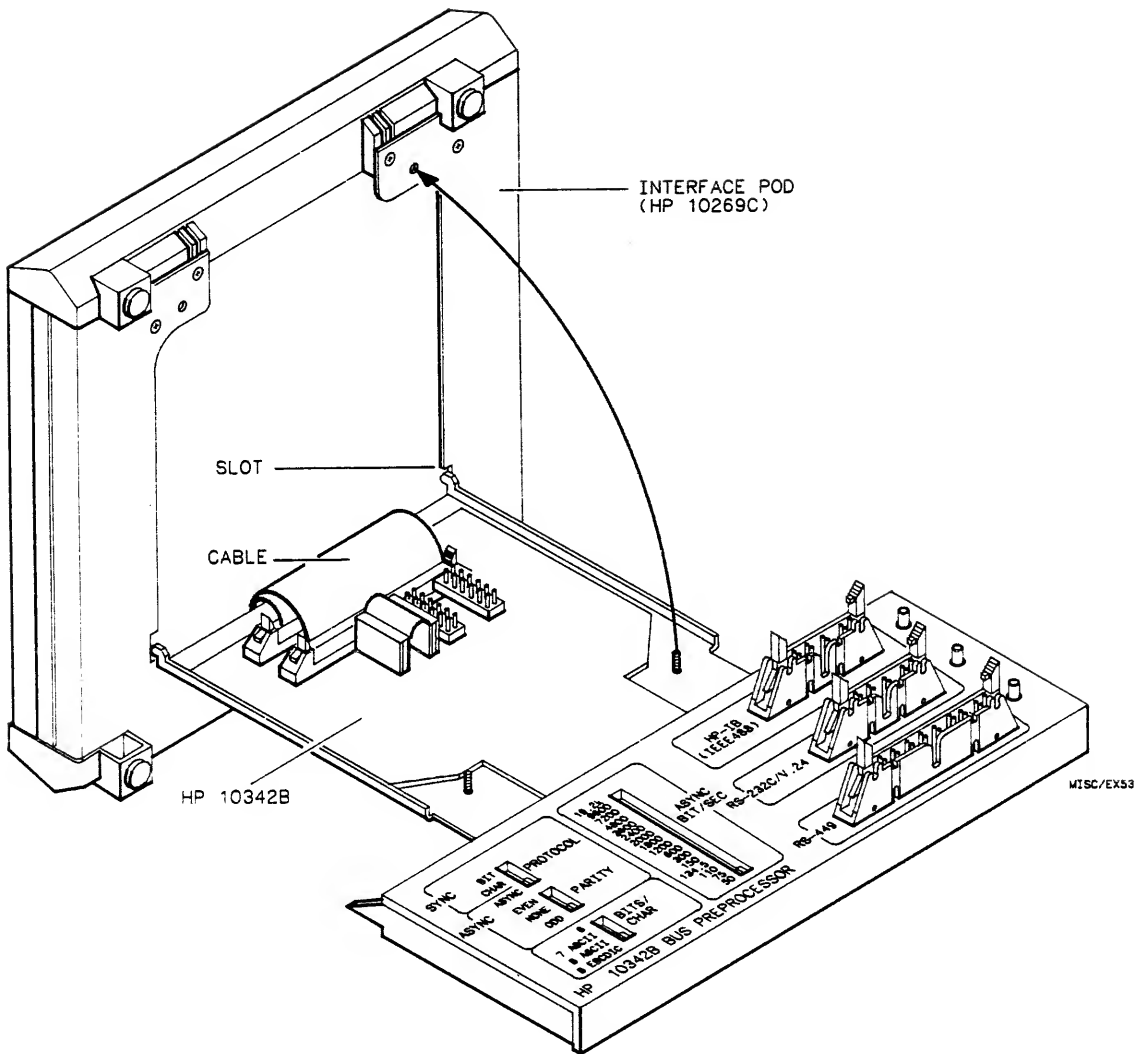

Figure 4-2. Installing the HP 10342B in the HP 10269C
1. Once all the connections are made, install the HP 10342B on the bottom of the HP 10269C (see figure 4-2).